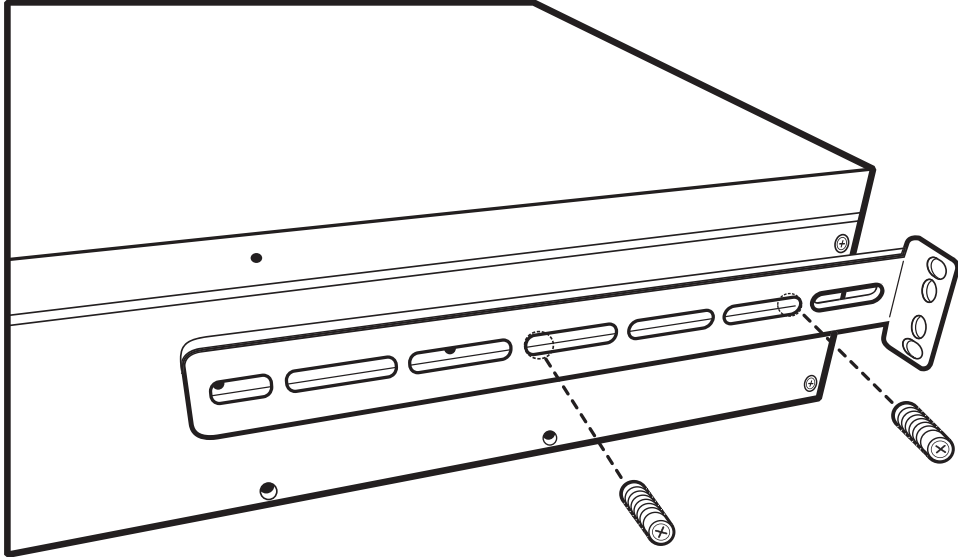

Figure 2.7 Attaching the Rear Brackets to the TMP800-CTRL
1. Install the fixed brackets on the TMP800-CTRL, adjusting their position in accordance with the equipment rack depth. See figure 2.7 on page 15.